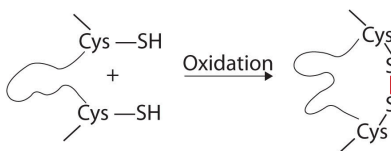

Figure 28.3p. Formation of disulfide linkages between two cysteine amino acid units (credit: *Intro Chem: GOB (v. 1.0)*, CC BY-NC-SA 3.0).
3. Disulfide linkages. Two cysteine amino acid units may be brought close together as the protein molecule folds. Subsequent oxidation and linkage of the sulfur atoms in the highly reactive sulfhydryl (SH) groups leads to the formation of cystine (part (c) of Figure 28.3o. and figure 28.3p.). Intrachain disulfide linkages are found in many proteins, including insulin (yellow bars in Figure 28.3k.) and have a strong stabilizing effect on the tertiary structure.